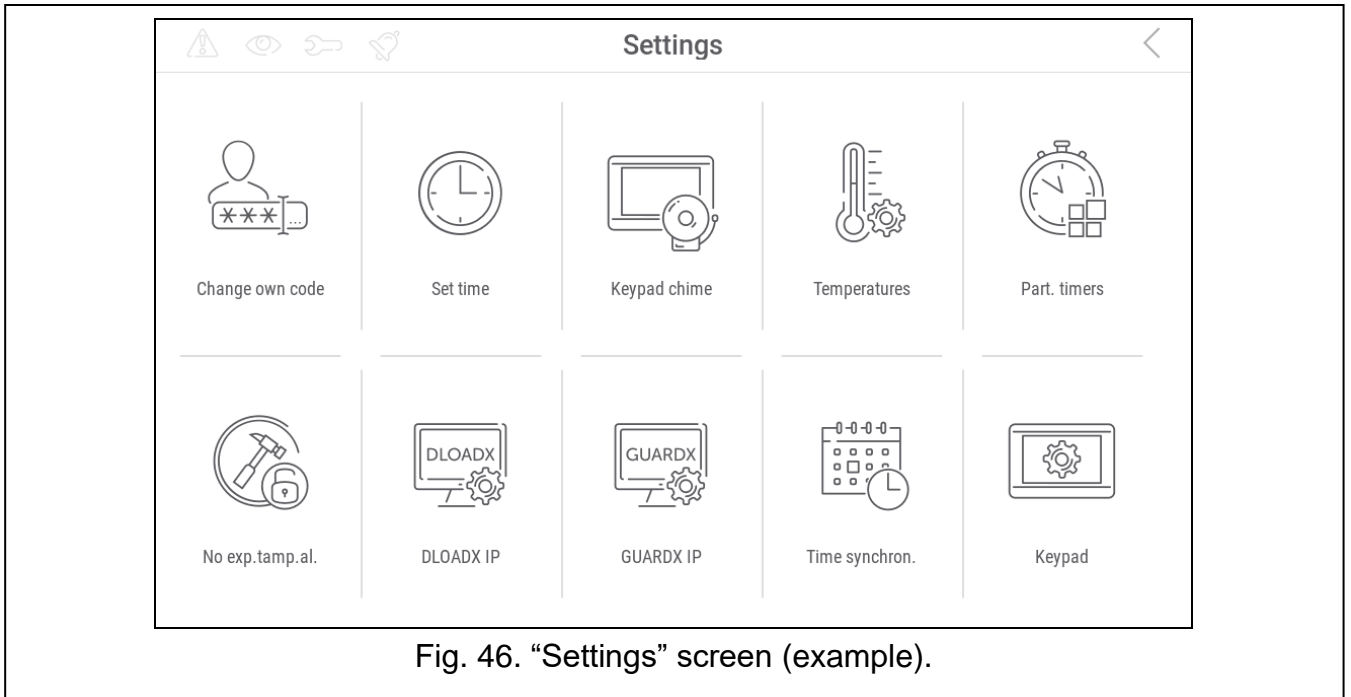

Fig. 46. "Settings" screen (example).
5. Tap the “Settings” function. The “Settings” screen will be displayed (Fig. 46).